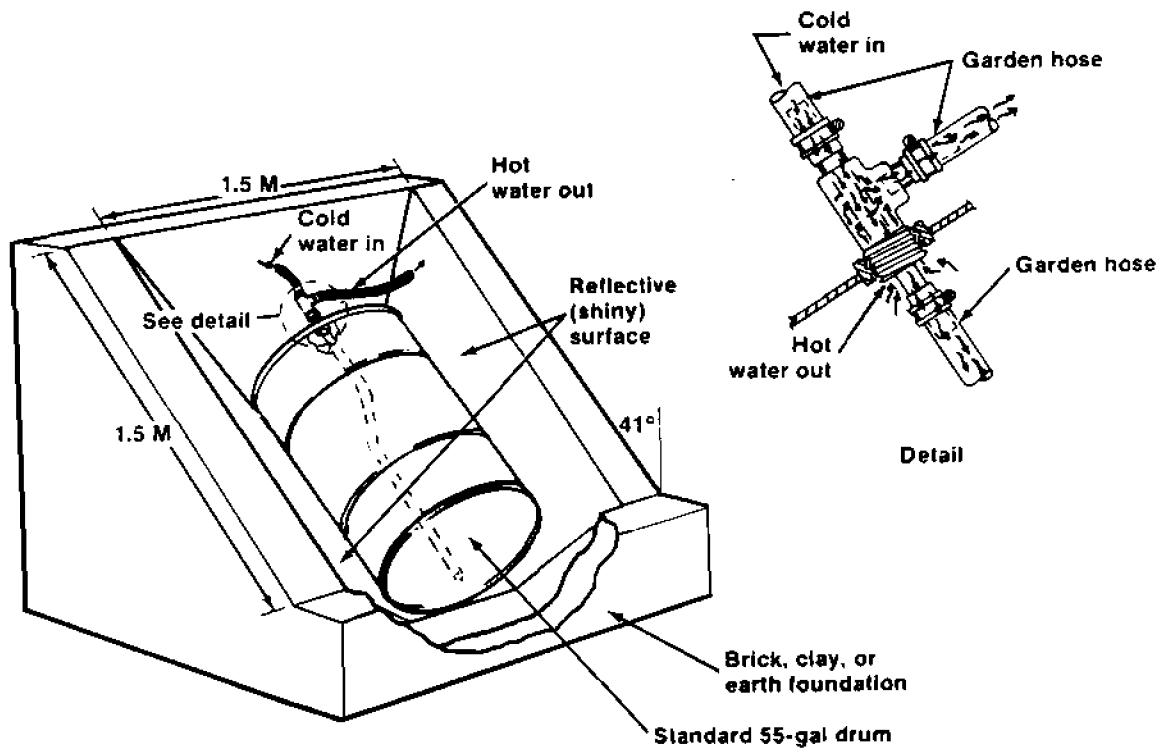

Figure 1. Solar batch heater
6. Set the third row of blocks on only three walls (west, north and east) to begin the incline of the west and east walls (see Figure 1).
The finished frame's east and west walls will have a 42-45 degree incline from top to bottom (north to south). (See Figure 1.)